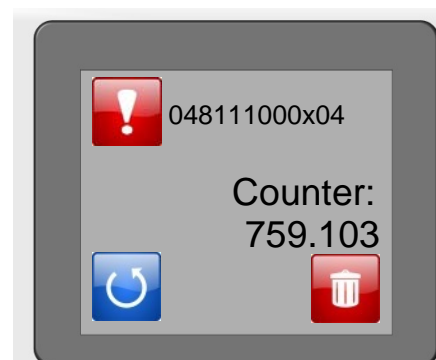

Abb.13.02
- If the error is not remedied, all other icons on the display are inactive (Fig. 13.02)